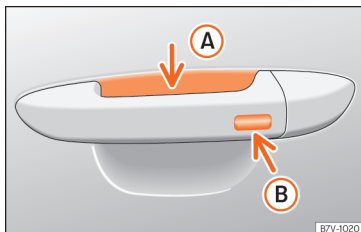

Fig.150 Driver door lever: sensor surfaces.
- Press and hold the locking sensor surface »» Fig.150 (B) on the door handle to close the sunroof. If you release the sensor surface, the closing movement stops.